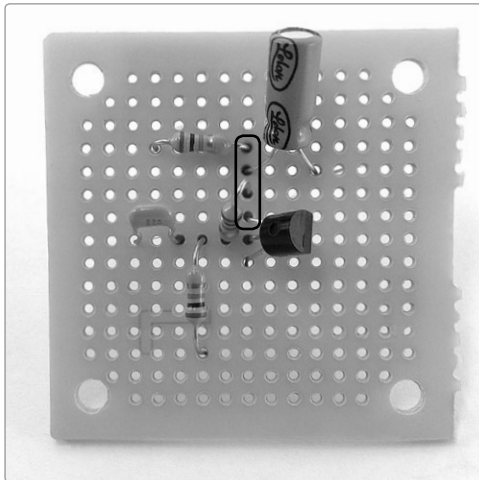

FIGURE 12-14: *Connecting the 10k ohm power supply resistor*
- Step 16** Insert one leg of the 10k ohm resistor (brown-black-orange stripes) into the first open hole above the positive leg of the output cap that you just installed. Insert the other leg four holes to the left in the same row, as shown in Figure 12-14.
- Step 17** Solder the rightmost leg of the 10k ohm resistor to its pad. Then use one of the solder-bridging methods from Step 14 to connect that leg to the three directly below it: the positive leg of the output capacitor, the 1M ohm resistor, and the transistor's upper leg. You should have the four circled leads in Figure 12-14 connected. Clip the excess leads after the solder joint has cooled.